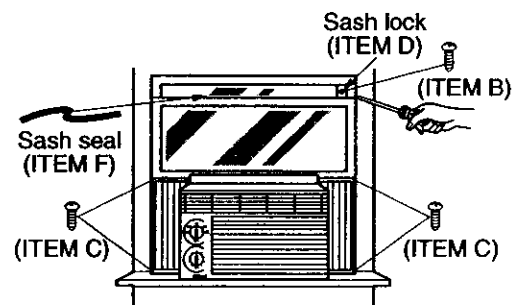

Figure 79
Extend the sliding panels to fill the window opening using 4 screws (ITEM C) to secure them, as shown in Figure 79.
- Cut the sash seal to the window width. Stuff the sash seal between the glass and the window to prevent air and insects from getting into the room, as shown in Figure 79.
- Screw the sash lock (ITEM D) on using an ITEM B screw, as shown in Figure 79.